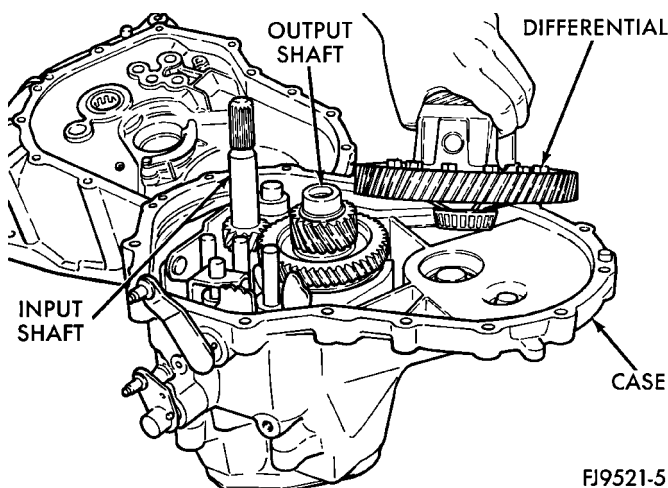

Fig. 75 Differential Assembly
(20) Install differential into gear case (Fig. 75).